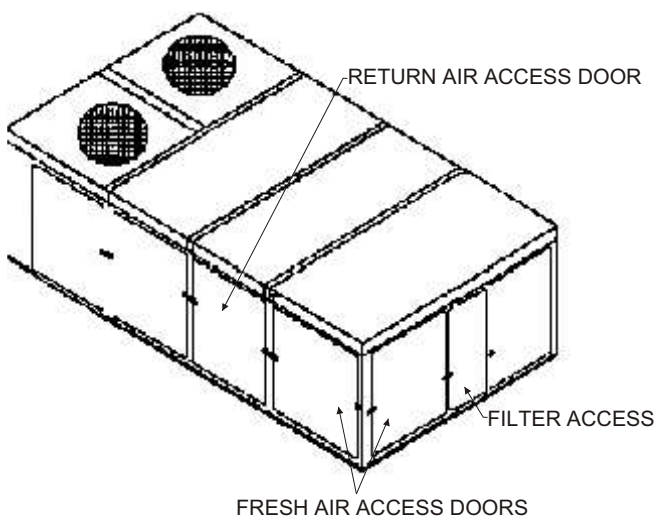

Figure 2 - Access panels
1. Remove the four access panels. Two outdoor air (OA) panels, one return air (RA) panel, and one filter panel. See Figure 2.
- b. Use a 5/16 in. hex socket to remove the four screws on the bottom of each panel. See Figures 2, 3, and 4.